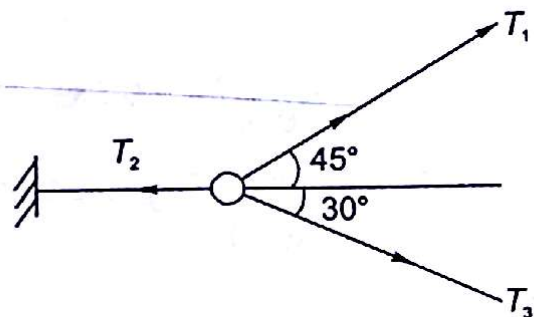

Fig. 3.77
3.1 (a) (Fig. 3.77) $P \times \sqrt{2}a = mg \cdot a/2, P = mg/2\sqrt{2}$.
3.5 (b) (Fig. 3.77)